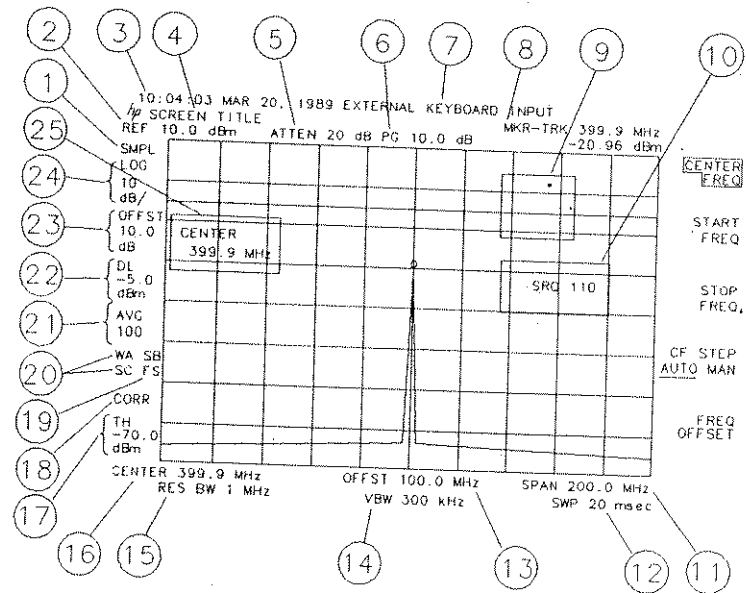

Figure 1-7. Screen Annotation
Figure 1-7 shows annotation as it appears on the screen of the analyzer when it is set to clear-write A, store-blank C, free run trigger, and single sweep. Correction factors are applied. Table 1-1 lists the features of the front panel numerically and refers to the features in Figure 1-7. Table 1-2 shows the different screen annotation codes for trace, trigger, and sweep modes.
*Index number 19 refers to analyzer trigger and sweep modes. In Figure 1-7, the first letter ("F") indicates the analyzer is in free-run trigger mode. The second letter ("S") indicates the analyzer is in single-sweep mode.
†Index number 20 refers to analyzer trace modes. In Figure 1-7, the first letter ("W") indicates the analyzer is in clear-write mode. The second letter, "A", represents trace A. The next two letters ("SB") indicate store-blank mode ("S") for trace B ("B"). Trace mode annotation for trace C is displayed under the trace mode annotation of trace A. In Figure 1-7, the trace C trace mode is "SC", indicating trace C ("C") is in store-blank mode ("S").